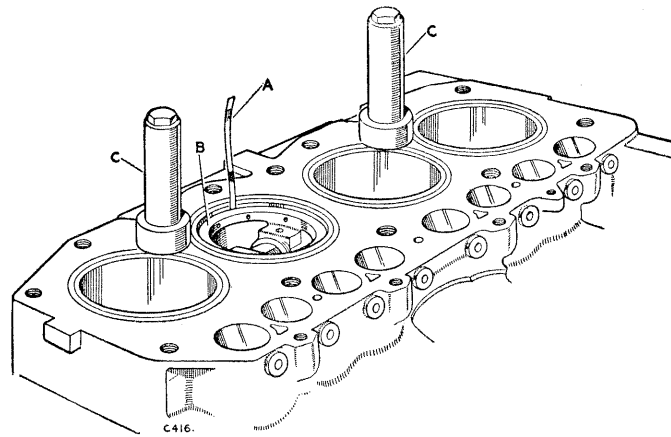

Fig. A-73—Checking piston clearance
1. When fitting pistons, the clearance in liner bore should be in accordance with the dimensions laid down in the Data Section. In the absence of suitably accurate measuring instruments, a long feeler, .004 in. (0,1016 mm) thick, may be inserted in the thrust side of the liner bore, as illustrated in Fig. A-73, and the piston located crown downward and the gudgeon pin in line with the centre line of cylinder block. The piston should become a tight fit when the bottom of skirt enters the bore.